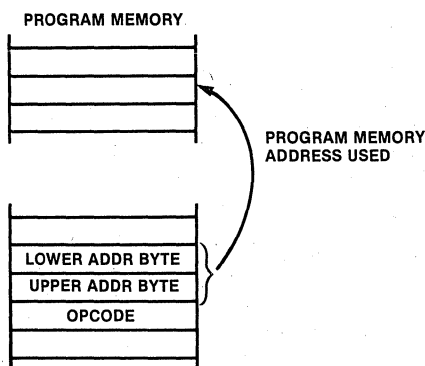

Figure 4-6. Direct Addressing
The Direct addressing mode, as shown in Figure 4-6, specifies the address of the next instruction to be executed. Only the Conditional Jump (JP) and Call (CALL) instructions use this addressing mode.